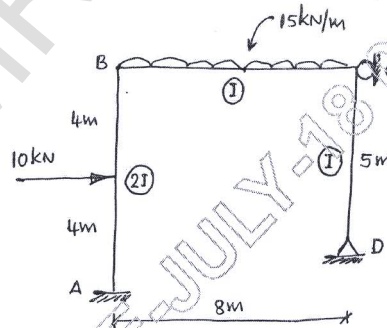

Fig. Q3
- 3 Analyse the frame shown in Fig. Q3 by flexibility matrix method. Draw BMD. Use element approach. (20 Marks)